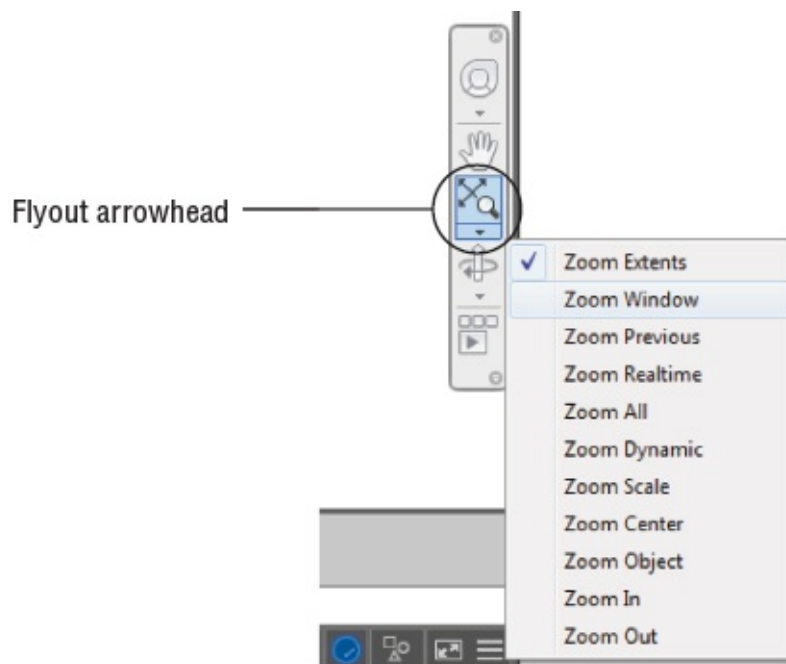

FIGURE 1.19 Choosing the Zoom Window tool from the Zoom flyout in the Navigation bar
4. Click the Zoom Window tool from the Zoom flyout in the Navigation bar (see Figure 1.19). Remember that to open the flyout, you need to click the arrowhead next to or below the tool.